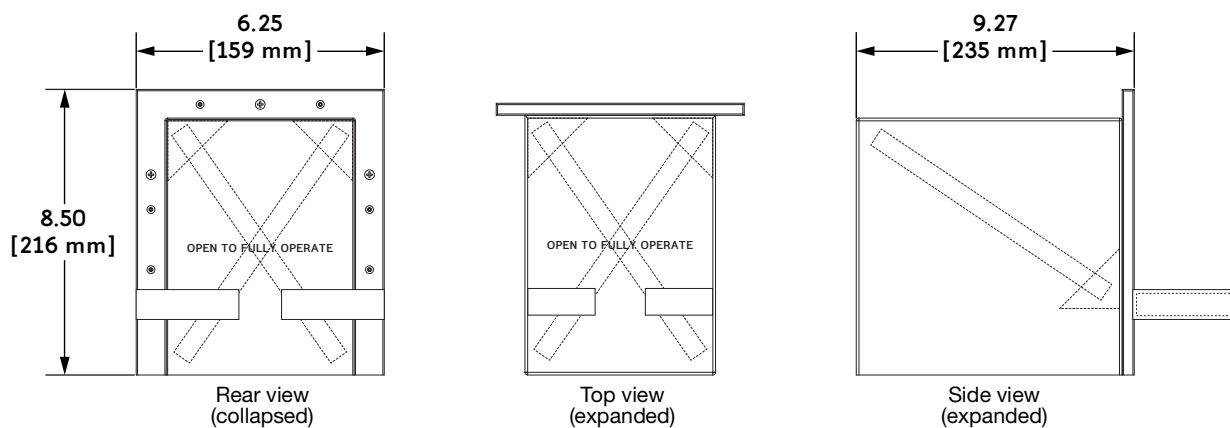

Figure 19: Rain Hood Struts
3. Reach inside the rain hood and free the two struts (Figure 19) from the top corner pockets nearest the loudspeaker.